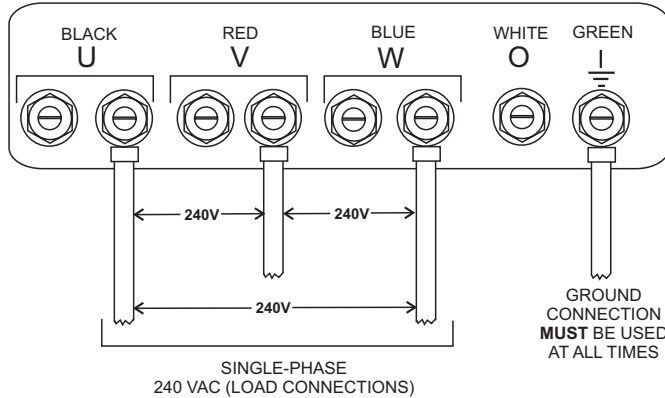

**Figure 20. Voltage Regulator**
4. Use the **voltage regulator** (Figure 20) to increase or decrease voltage output as needed. Turn clockwise to increase voltage output and turn counterclockwise to decrease output.